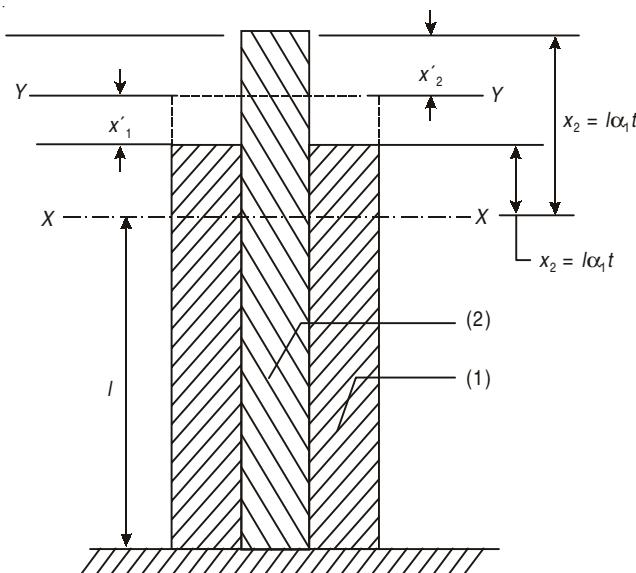

Fig. 1.29
Consider a composite bar comprising of two metals (1) and (2), as shown in Fig. 1.29. Suppose $x-x$ be the initial level and $y-y$ be the final level after the rise in temperature t . If both bars were free to expand, the extension of material (1) would be $l\alpha_1 t$ and that of material (2) would be $l\alpha_2 t$ on the assumption $\alpha_2 > \alpha_1$. Since both materials are rigidly connected at the ends, material (1) is forced to extend a distance x'_1 and material (2) is forced to compress a distance x'_2 as shown in figure. Stresses in materials will be induced only due to these forced changes x'_1 and x'_2 .